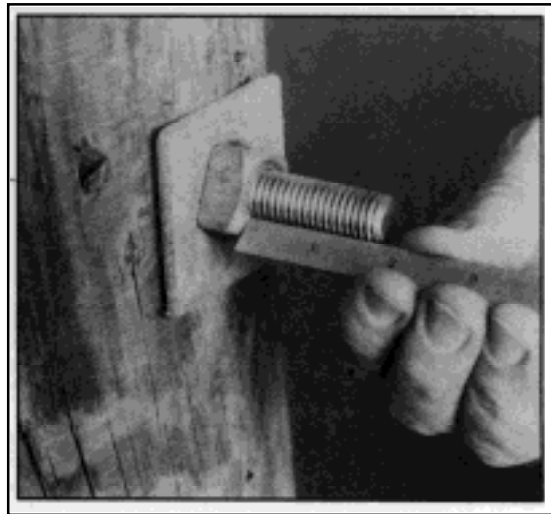

FIGURE 2
4.01 Install a 5/8" UNC double arming throughbolt through the pole or structure. Use a washer and jam nut on both sides as shown in Figure 2.
4.02 Extend the threads of the bolt 1-5/8" beyond the tightened jam nut. Use a tape measure or ruler to gauge bolt extension as shown in Figure 2. A longer bolt extension is permissible. However, cantilever loading on the bolt with excessive extension should be considered.